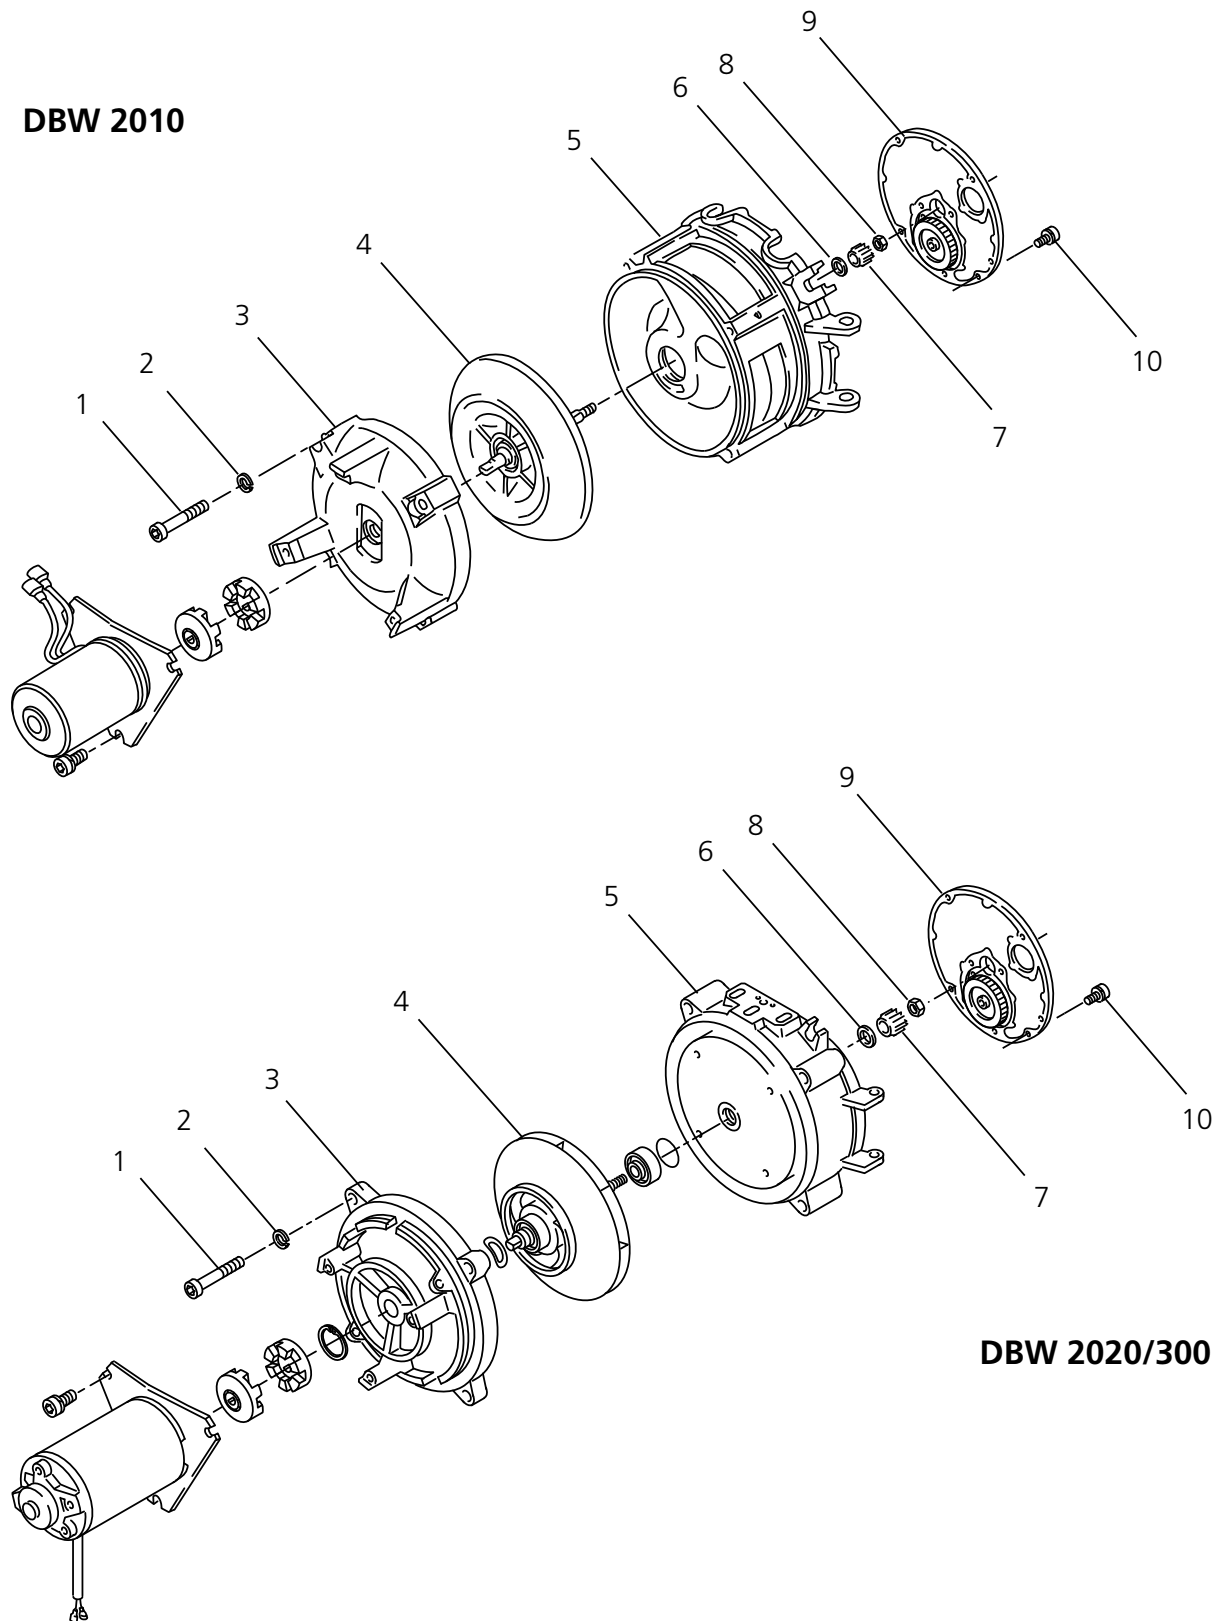
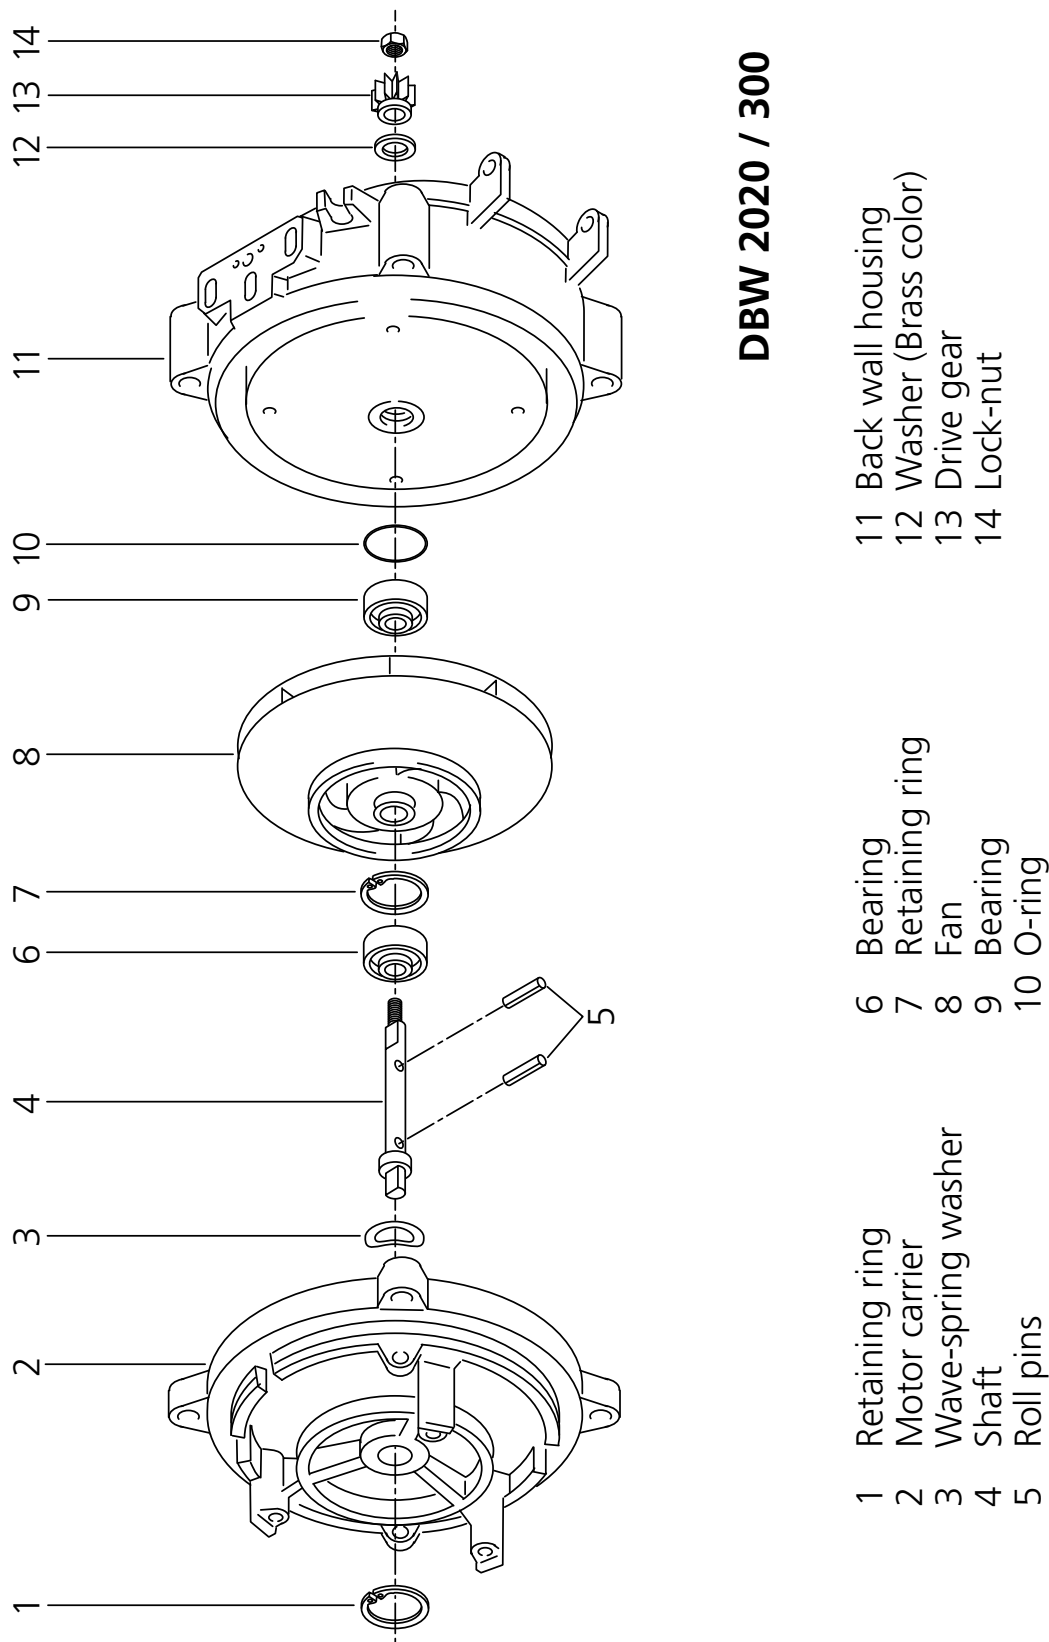

Figure 47: Fan Replacement
Figure 49: Exploded view - fan support assembly - DBW 2020/300
6. Remove four Allen Socket screws (item 1, Fig. 47) and washers (2) from motor carrier (3).
7. Remove four screws (10) from nozzle holder plate (9) and pull plate free.
11. Grasp motor carrier (item 3, Fig. 47) and with a slight rocking motion, work the motor carrier and fan (with bearing), free from housing (5).
2. Push fan with shaft through bearings and spacer of housing (item 5, Fig. 47)
3. Install washer (6), drive gear (7) and lock-nut (8).
6. Make sure O-ring (item 10, Fig. 49) in bearing recess of housing (item 5, Fig. 47) is present and in place.
7. Push fan assembly into housing (5) until motor carrier (3) is fully seated.
8. Install motor carrier (item 3, Fig. 47) over fan (4).